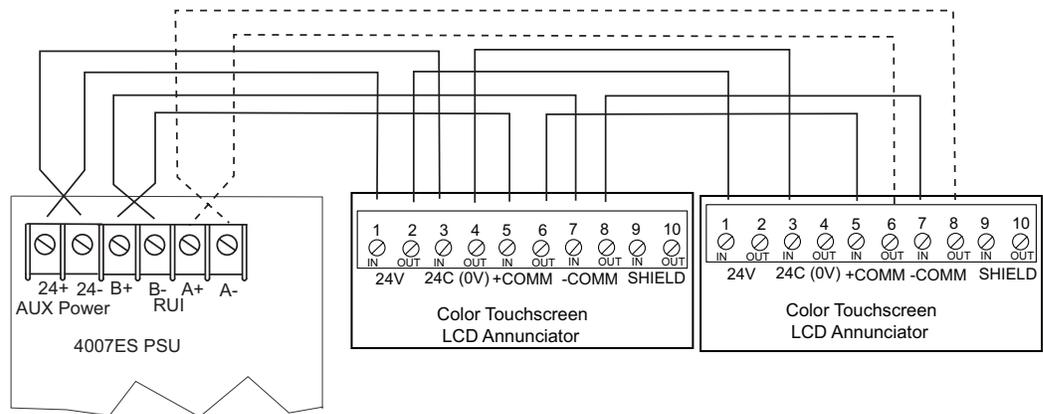

Figure 4. Wiring Diagram
3. Connect the RUI wiring from COMM+ and COMM- on the remote annunciator to RUI terminal on the 4007ES panel power supply (see Figure 4).
5. To power the remote annunciator, connect the cable from 24+ and 24- on the 4007ES power supply to 24V and 24C (0V) on the remote annunciator (Figure 4).